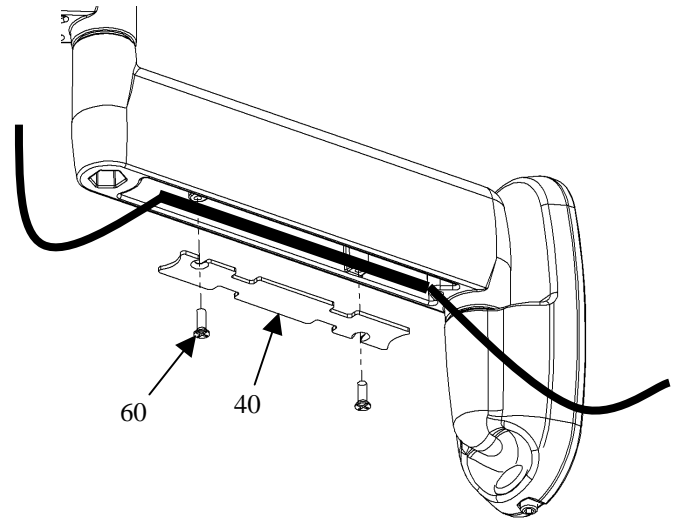

Figure 18. Cable Management
3. Secure cables using cover plates (40) and four screws (60). (See Figure 18).